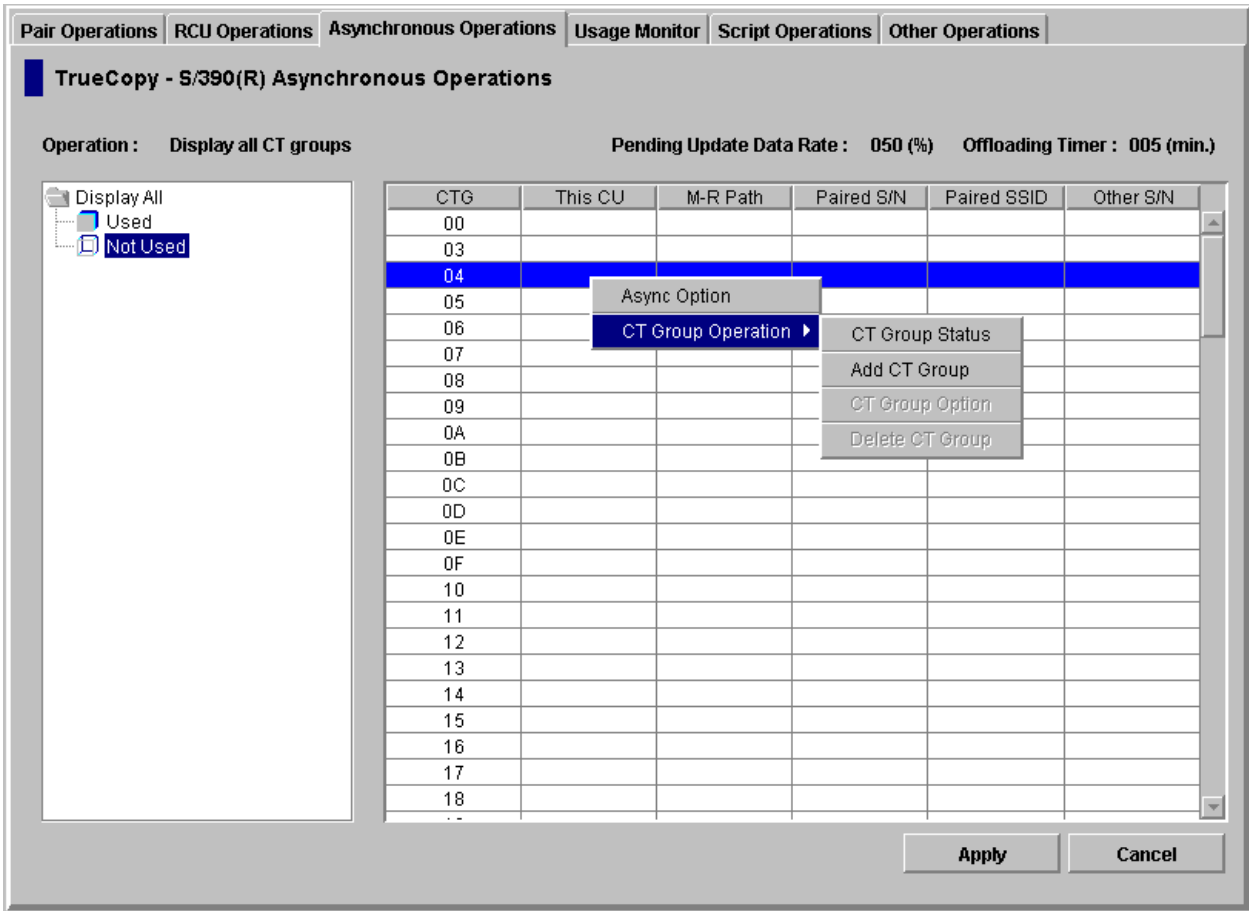

Figure 4.26 Pop-up Menu for the Asynchronous Operations Tab
3. Right-click on the selected item(s) to display the pop-up menu (see Figure 4.26):